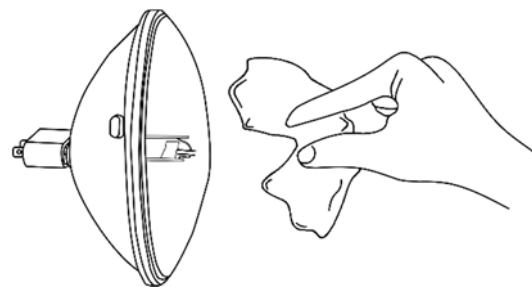

Fig. 04
- 04) Remove the lamp from the box and hold it **by the base**. Read lamp instructions. **Do not touch the lamp bulb glass.** Oil on hands shortens the lamp's lifespan. If you touch the bulb glass, wipe it off with a clean, lint free towel and rubbing alcohol (fig. 04).